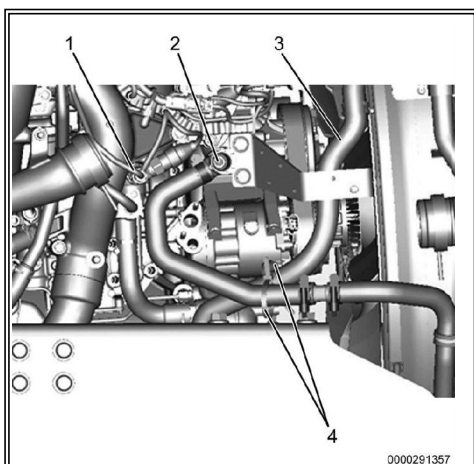

Figure 22: Water Bypass Hose.
1. Rotate 90-degree elbow fitting (Figure 220, Item 2) down until bypass hose clears turbo oil supply tube (Figure 22, Item 1).
2. Using two tie straps (Figure 22, Item 4), and a swivel saddle, secure water bypass hose to deaeration tank hose (Figure 22, Item 3).